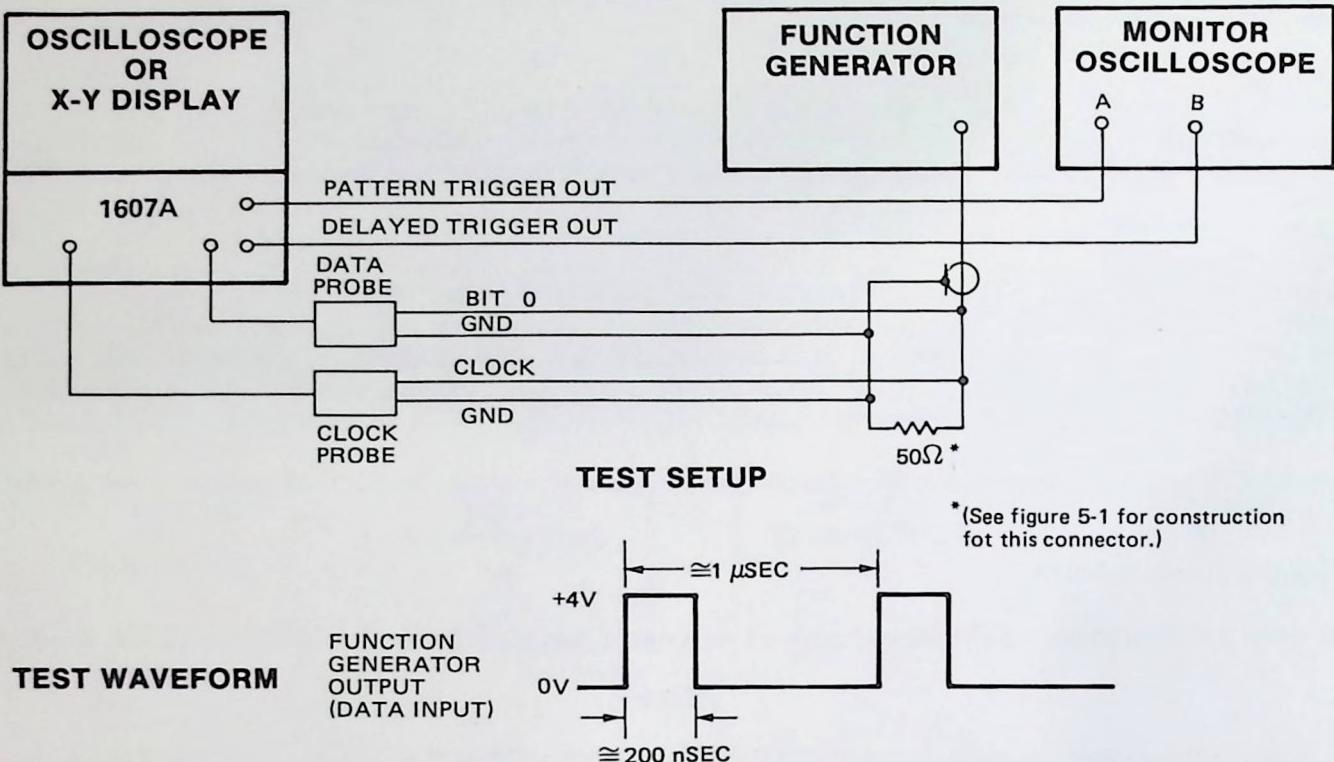

Figure 5-8. Pattern and Delayed Trigger Outputs Test Setup
- Connect test equipment as shown in figure 5-8.